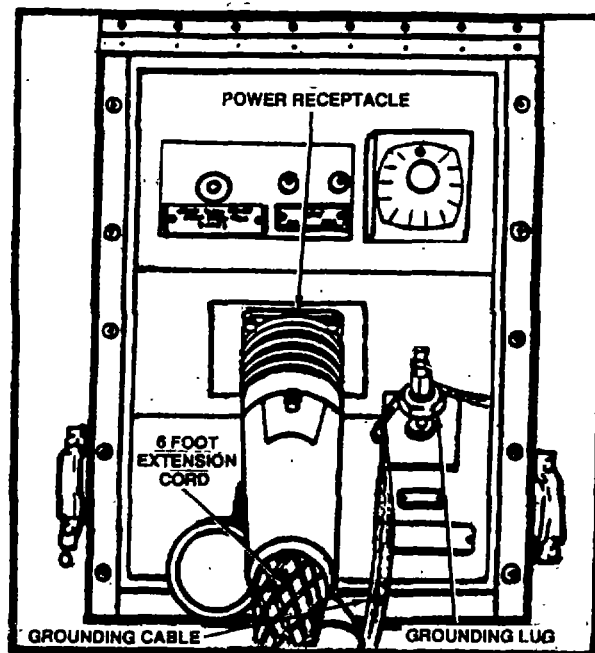

Figure 2-3. Power Entrance Panel
- (l) Attach grounding cable to grounding lug in power entrance panel (Refer to Figure 2-3).